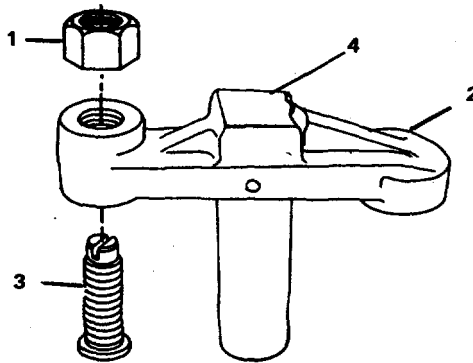

FIGURE 4-35. Crosshead Disassembly/Assembly.
- (1) Remove the nut (1, FIG. 4-35) and the adjusting screw (3) from the crosshead (2).
- (2) Use solvent to clean the parts.
- (3) Inspect the threads of the nut (1), adjusting screw (3), and crosshead (2) for damage. Check the largest end of the adjusting screw (3) for wear.
- (4) Check the contact pad (4) for cracks (shaded area in FIG. 4-35).
- (6) Install adjusting screw (3, FIG. 4-35) and nut (1) on crosshead (2).